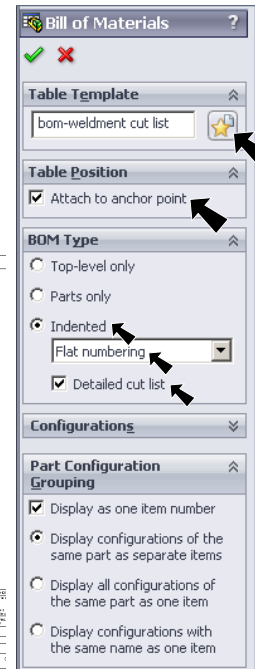

Fig. 5
Step 3. In the Property Manager set, **Fig. 5** under **Table Template**
under **Table Position**, **Fig. 5**